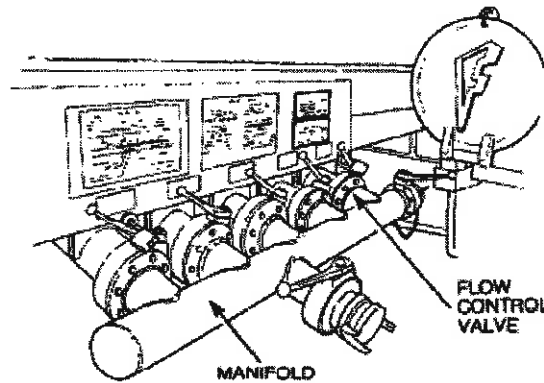

Figure 50 Manifold and Flow Control Valves
- e. Slacken all the bolts and nuts securing the manifold and the flow control valves to the compartment inlet/outlet pipes (Figure 50).